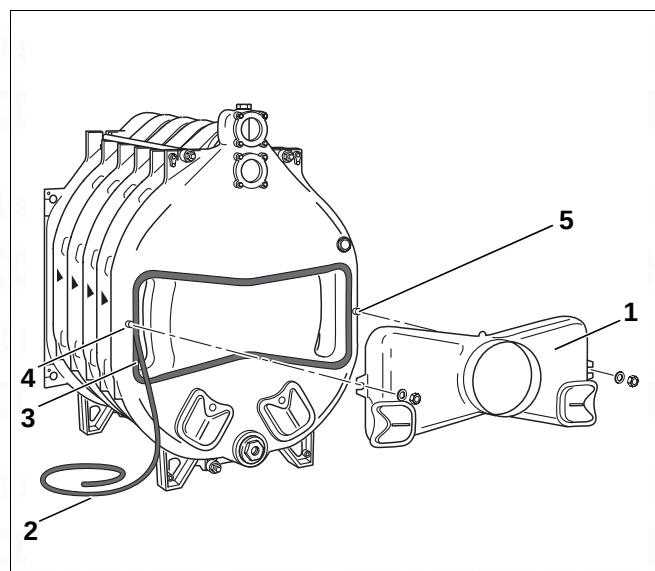

Fig. 24 Installation – flue gas header
The KM cord (Fig. 24, [2]) is used to seal the joints between the boiler and flue gas header (Fig. 24, [1]).
- ▶ Push the KM cord firmly into the groove. Insert the packing cord in such a way that the packing cord joint is in the side part of the groove (Fig. 24, [3]).
- ▶ Place the flue gas header onto the two threaded studs on the rear section (Fig. 24, [4] and [5]) and secure using washers and nuts.